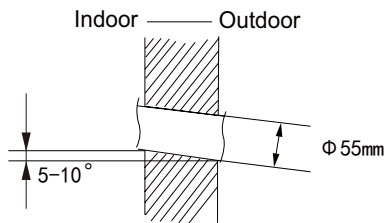

Fig.2
(2) Open a piping hole with the diameter of $\Phi 55\text{mm}$ on the selected outlet pipe position. In order to drain smoothly, slant the piping hole on the wall slightly downward to the outdoor side with the gradient of $5\text{-}10^\circ$. (As show in Fig.2)